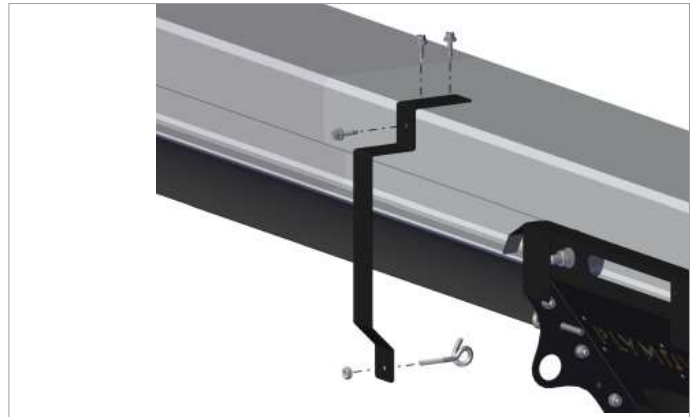

Fig. 6.3.9 Mounting the rope bracket
- Mount the rope bracket(s) using self-tapping screws 1/4 x 1 in. (6.3 x 25 mm). Refer to fig. 6.3.9.